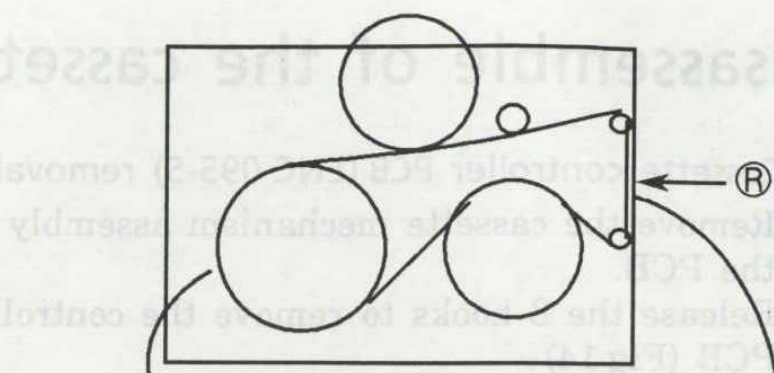
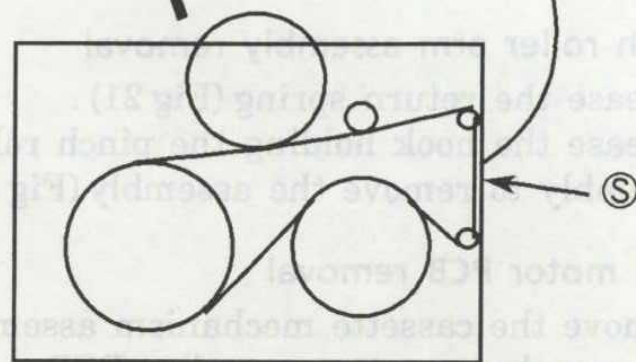

Fig 18 Mechanism A
Fig 20 Mechanism B
1. Install the belt of mechanism A as shown in fig 18.
4. Hang the part ⑧ to the Idler pulley.
5. Install the mechanism B installed the belt as shown in fig 20 to the bracket which is assembled with the mechanism A.
6. Hang the part ⑤ to the motor pulley using a tweezers and the like.